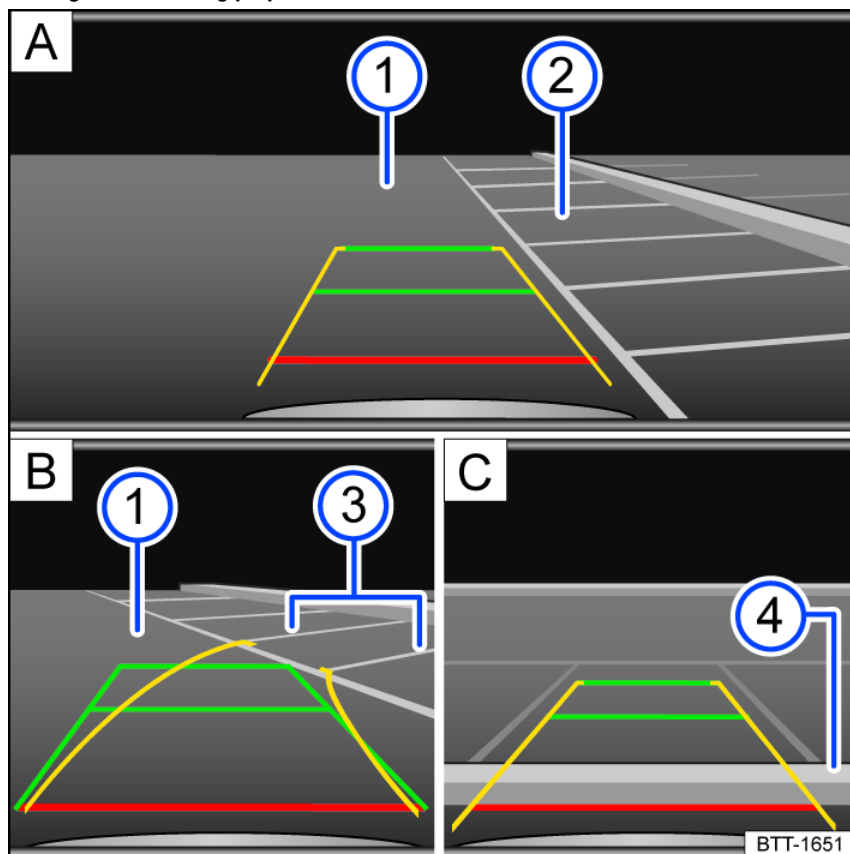

Fig. 143 Infotainment system: Parking perpendicular to the road.
① Road surface.
② Parking space.
③ Side boundary of the parking space.
④ Rear boundary of the parking space.
3. Position your vehicle in front of the parking space *fig. 143 A* ②.
4. Steer so that the yellow lines lead into the parking space. The green and yellow lines must align with the side boundary lines *fig. 143 B* ③.
5. Stop when the red line reaches the rear boundary *fig. 143 C* ④.